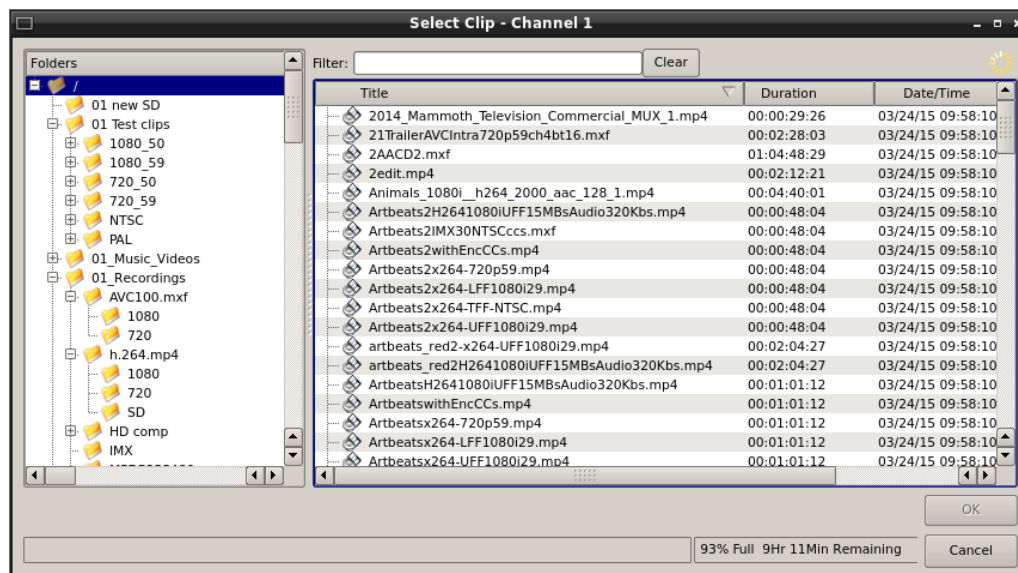

Figure 11 – Channel-1 Select Clip Window in “Open” Mode
1. Select **FILE > CLIP LIST** from the Main Window. The Clip List window in figure 11 appears.